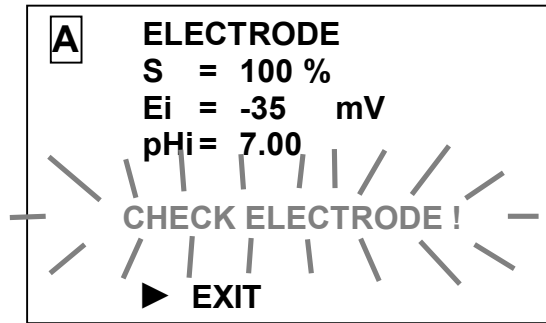

Figure 2.17
enter button to complete the calibration against the second buffer solution. The screen as shown in Fig.2.17 will be displayed.
- 6 Press the “menu” button. The screen as shown in Fig.2.17 will appear.